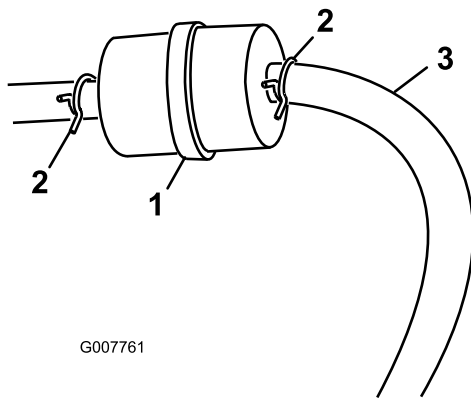

Figure 30
3. Squeeze the ends of the hose clamps together and slide them away from the filter (Figure 30).
5. Install a new filter and move the hose clamps close to the filter (Figure 30).
3. Loosen the hose clamp at the fuel filter and slide it up the fuel line away from the fuel filter (Figure 30).
4. Disconnect the fuel line from the fuel filter (Figure 30).
Note: Allow gasoline to drain into a fuel container can or drain pan (Figure 30).
5. Install the fuel line onto the fuel filter. Slide the hose clamp close to the fuel filter to secure the fuel line (Figure 30).